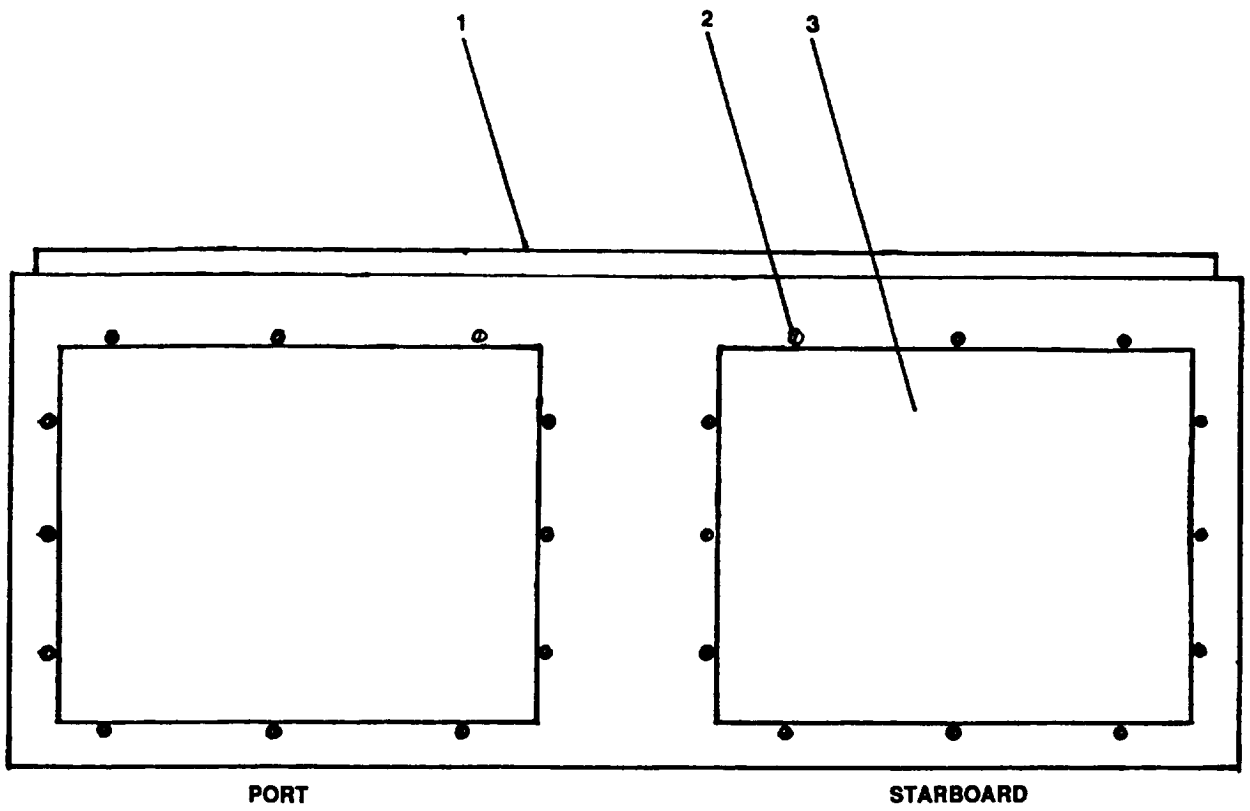
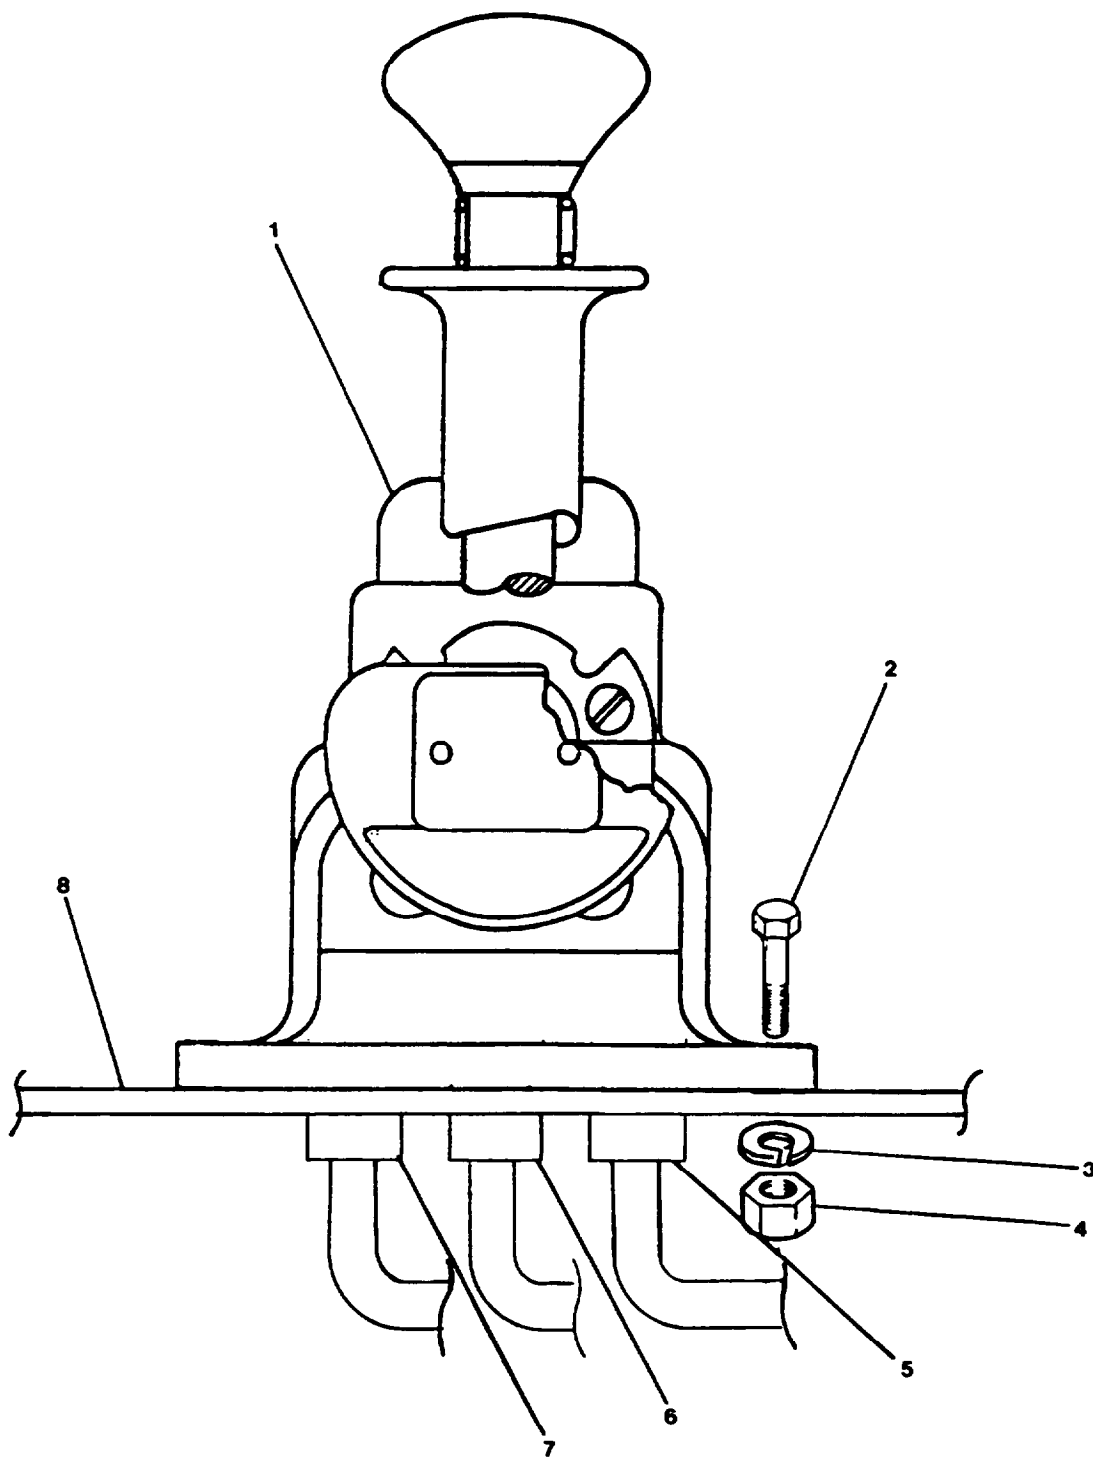
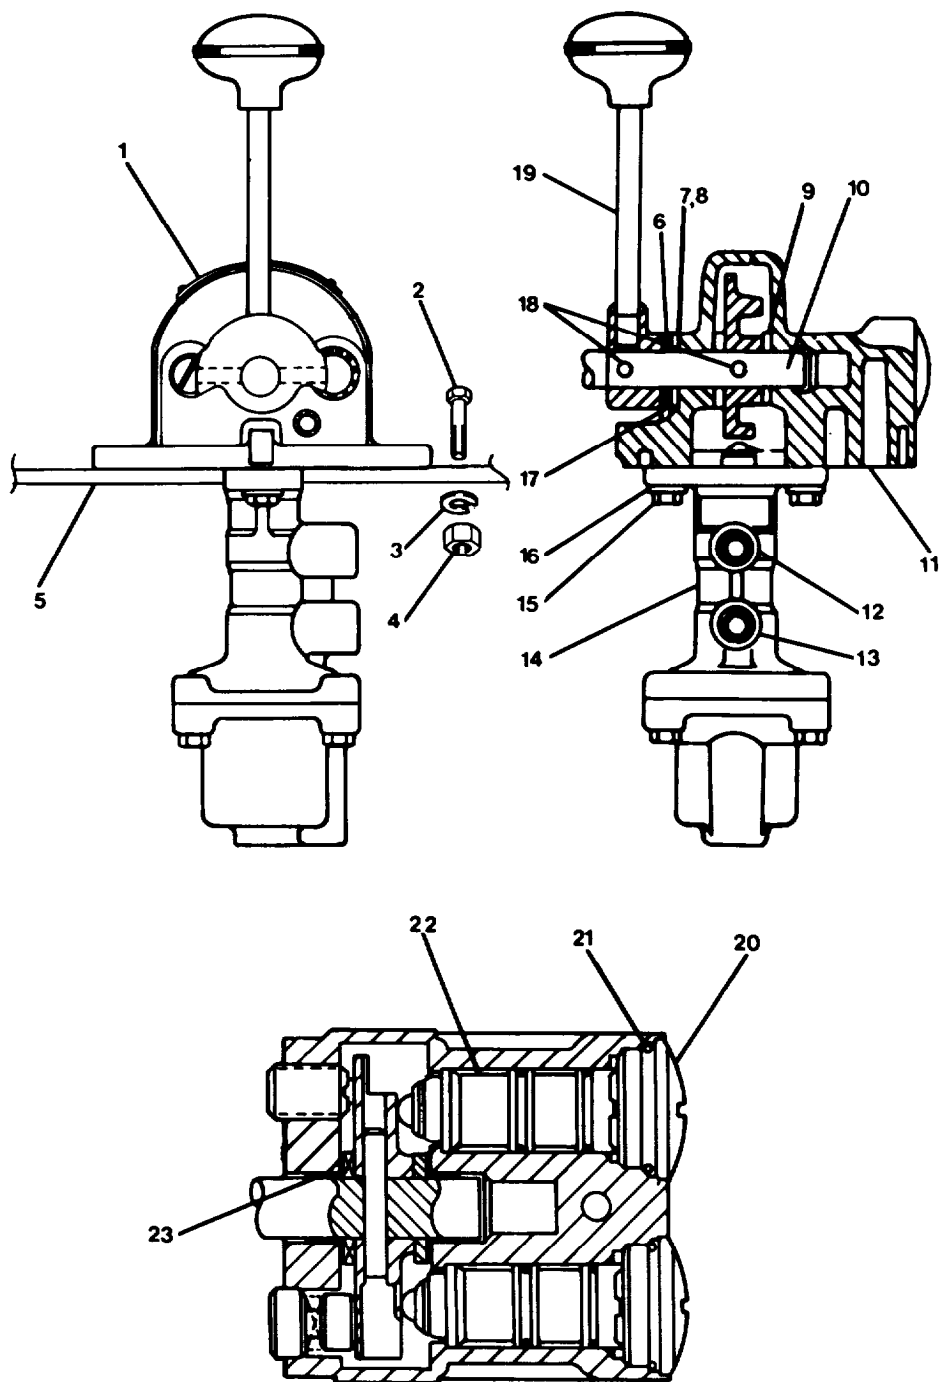

FIGURE 2-99. Engine Room Control Console.
FIGURE 2-100. Four-Way Directional Valve.
FIGURE 2-101. Engine Room Control Station.
- (1) Remove 12 machine bolts (2, FIGURE 2-99).
- (2) Remove access panel (3) from engine room control console (1) stbd side.
- (3) Remove four machine bolts (2, FIGURE 2-100).
- (4) Inside console remove lo&washers (3) and nuts (4).
- (5) Lift control station (1) up and out of console until flexible hoses are accessible.
- (6) Tag and disconnect flexible hoses at ports (11, 12, and 13).
- (7) Cap or plug connections.
- (8) Remove control station (1).
- (1) Engine room control console access panel removed in step a.(1) and (2).
- (2) Remove four machine bolts (2, FIGURE 2-100).
- (3) Inside console remove lockwashers (3) and nuts (4).
- (4) Lift valve (1) up and out of console until flexible hoses are accessible.
- (5) Tag and disconnect flexible hoses at ports (5, 6, and 7).
- (6) Cap or plug connections.
- (7) Remove four-way directional valve (1) from console (8).
- a. Remove hex head screws and lockwashers (15, 16, FIGURE 2-101).
- b. Remove valve regulator (14).
- c. Remove spring pins (18) from camshaft.
- d. Remove handle (19) and camshaft (10).
- e. Remove sleeve bearing (23).
- f. Remove flat washer (9) and spring tension washer (17).
- g. Remove spacer (6), thrust washer bearing (7), and roller needle bearing (8).
- h. Remove cap (20), preformed packing (21), and poppet valve (22).
- (1) Remove caps or plugs from connections.
- (2) Apply teflon tape to connections; connect flexible hoses at ports (5, 6, and 7, FIGURE 2-100).
- (3) Position valve in slot in engine room console.
- (4) Replace four machine bolts (2).
- (5) Inside console secure valve with nuts (4) and lockwashers (3).
- (2) Apply teflon tape to connections connect flexible hoses at ports (11, 12, and 13, FIGURE 2-101).
- (3) Position control station in slot in engine room console.